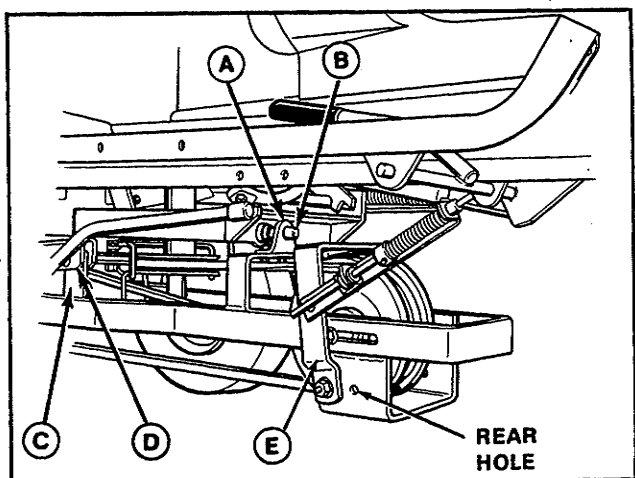
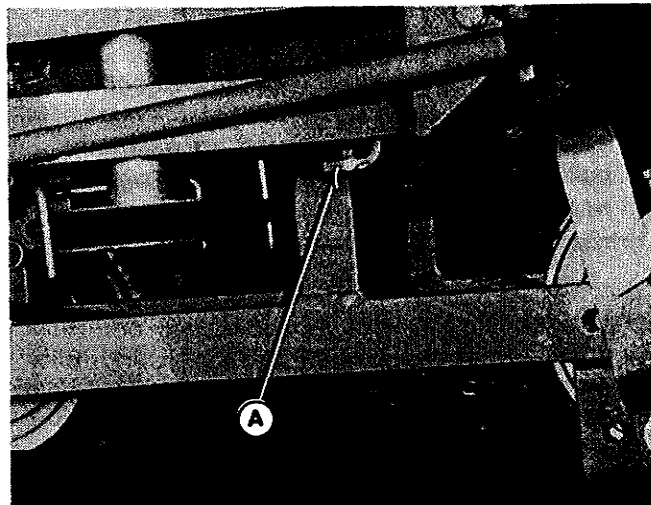
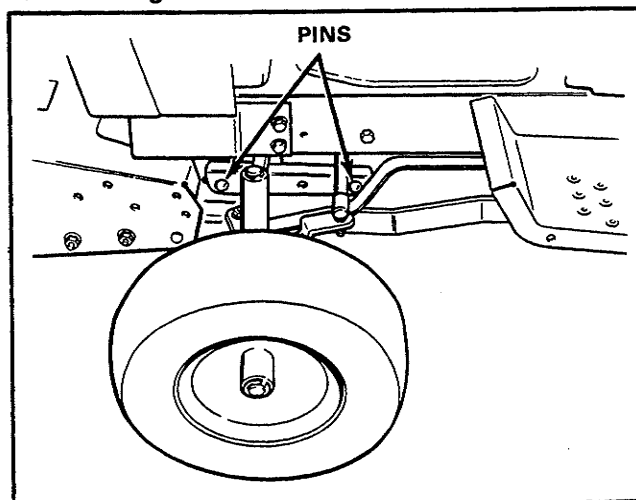
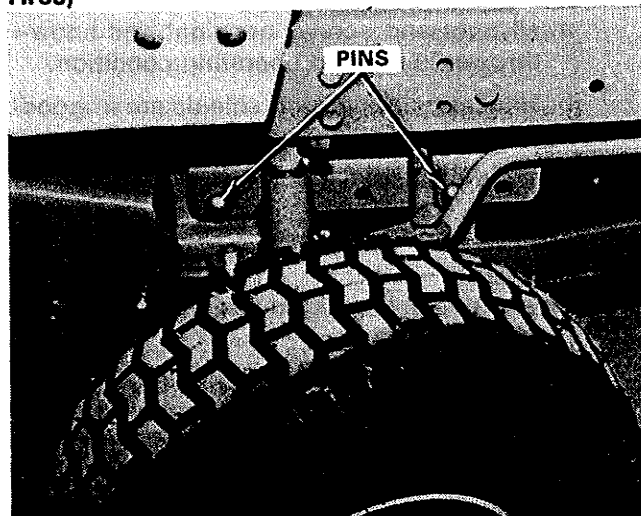

Figure 1. Snowthrower Hitch (Tractors with 18" Rear Tires)
Figure 2. Snowthrower Hitch (Tractors with 20" or 23" Rear Tires and all 2-Cylinder)
Figure 3. Attaching Hitch (Tractors with 18" Rear Tires)
Figure 4. Attaching Hitch (Tractors with 20" or 23" Rear Tires and all 2-Cylinder)
- a. Make sure the pivot bracket (E, figure 1) is installed in correct hole in hitch. Use the rear hole for all tractors with 20 inch or 23 inch diameter rear tires or 18 inch diameter rear tires with 2-cylinder engine. Use the front hole for all other tractors.
- b. Make sure the correct mounting bracket (A, figure 1) is installed. Two mounting brackets are shipped with the snowthrower. Use the longer one if snowthrower is installed on a tractor with 23 inch diameter rear tires.
4. Lift the hitch and slide the bracket (A, figure 1) onto the shaft (B). On tractors with 20 inch or 23 inch diameter rear tires or 18 inch rear tires with 2-cylinder engine, the shaft extends forward as shown in figure 2. On tractors with 18 inch tires, the shaft (B, figure 1) extends rearward.
5. Align the four hitch arms (C, figure 1) inside the tractor hitch. Insert the four pins thru snowthrower hitch and tractor hitch (two on each side). Use the front and third holes of the tractor hitch. See figure 3 or figure 4.